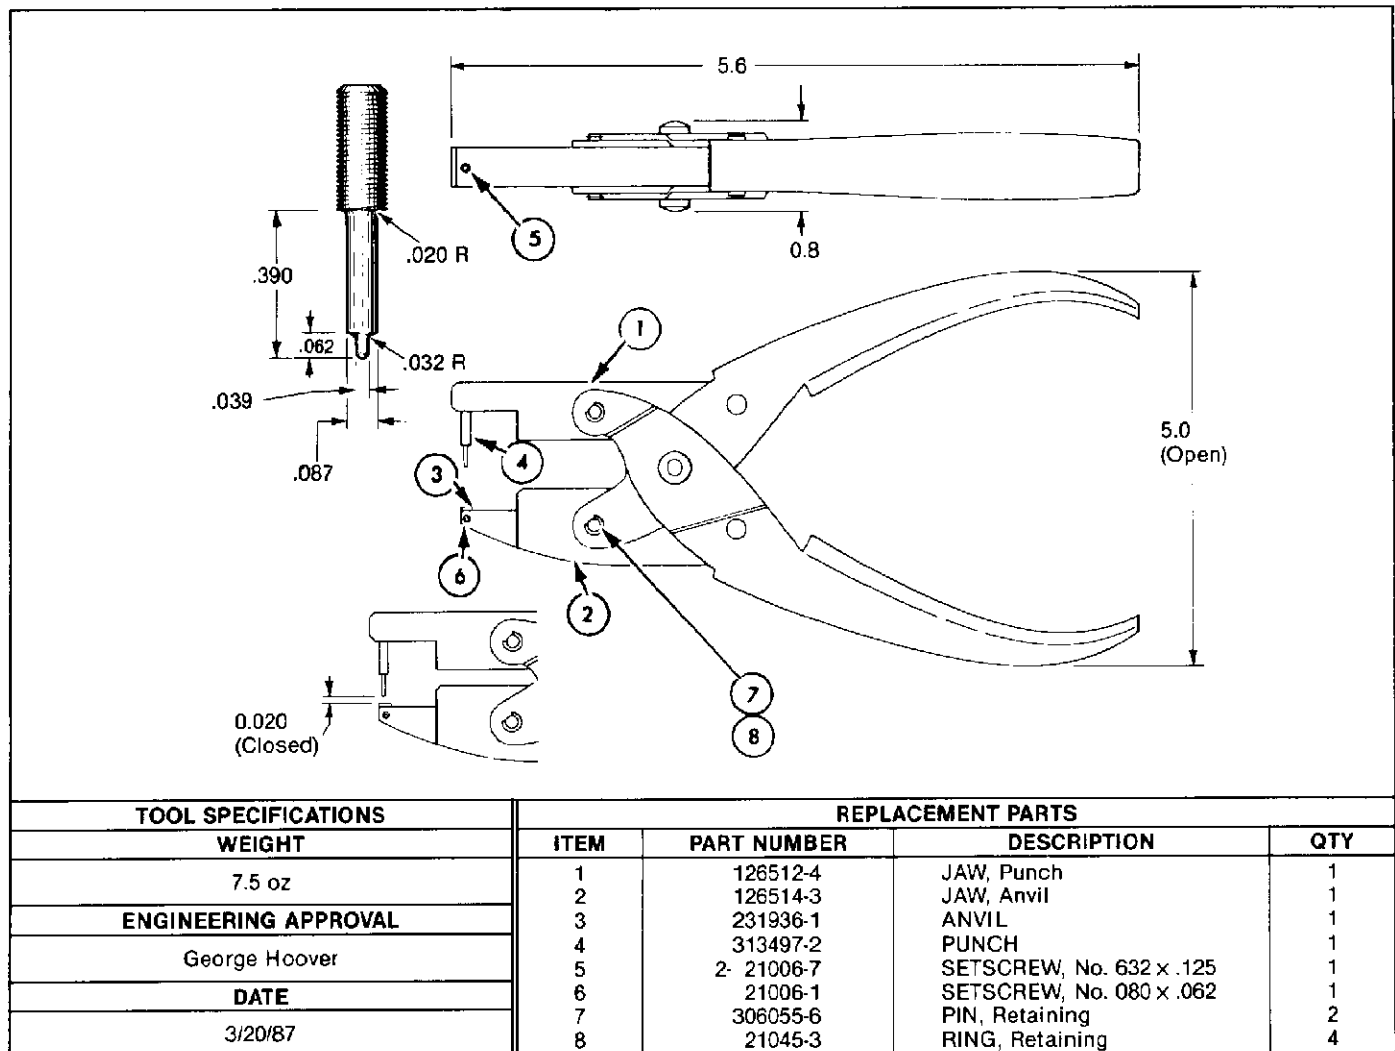

Fig. 3
4. TOOL ADJUSTMENT (Figure 3)
The tool should be certified with the information in Figure 3. We recommend you inspect the tool on its arrival and at regularly scheduled intervals to ensure it has not been damaged or worn.
The parts listed in Figure 3 are customer replaceable. They should be replaced when they become worn or damaged. Replacement parts can be ordered from
Parts other than those listed in Figure 3 should be replaced by AMP to ensure certification of the tool. When repair is necessary, return the tool with a written description of the problem to